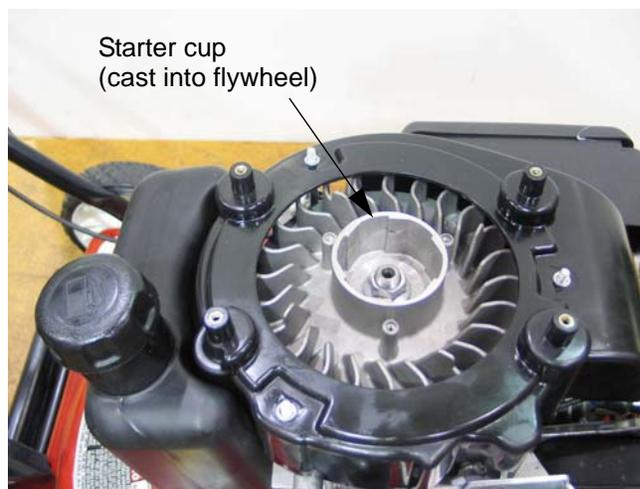

Figure 6.3
1. Inspect the inside of the starter cup. See Figure 6.3.